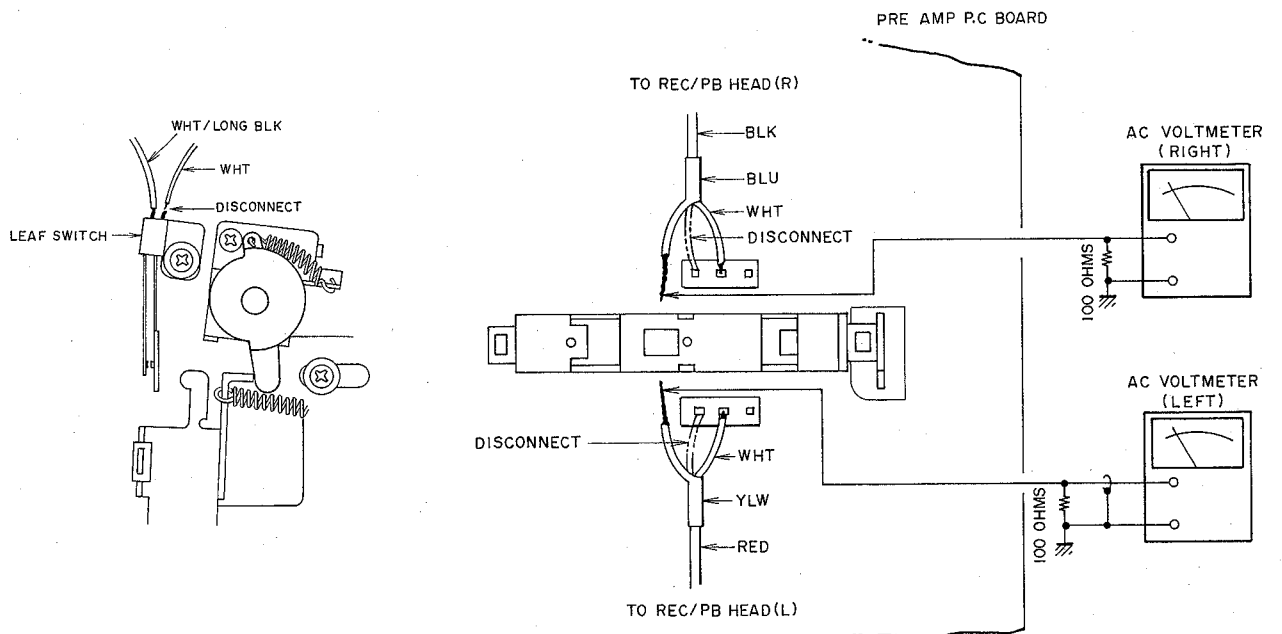

Fig. 30 Rec Peaking Adjustment
6. Before the adjustment, remove lead wires from the REC/PB head and the leaf switch. (Fig. 30)